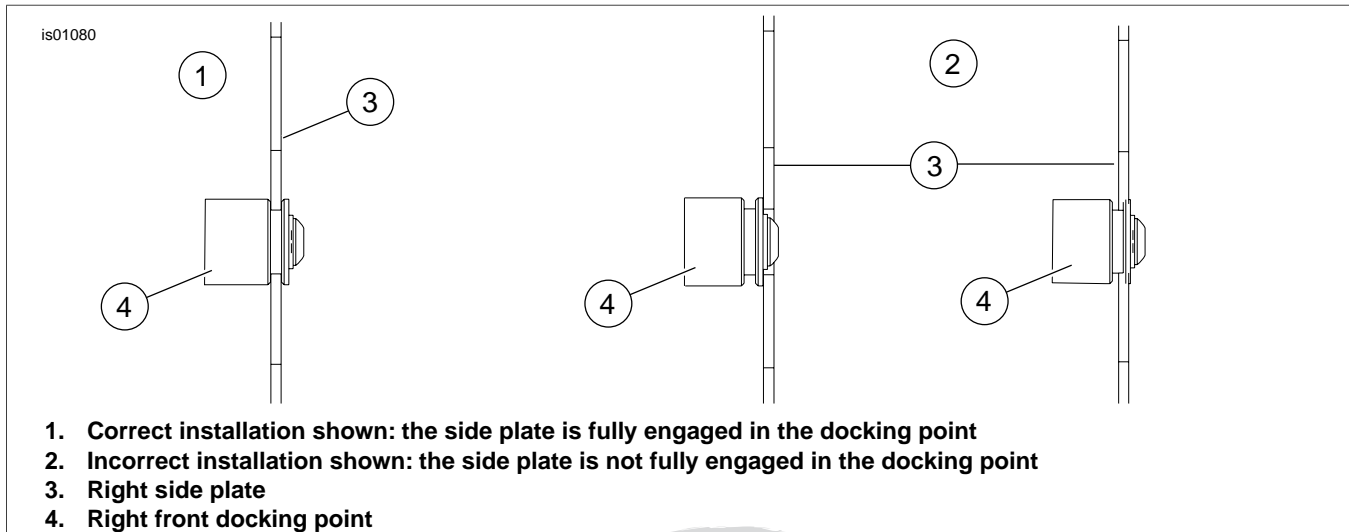
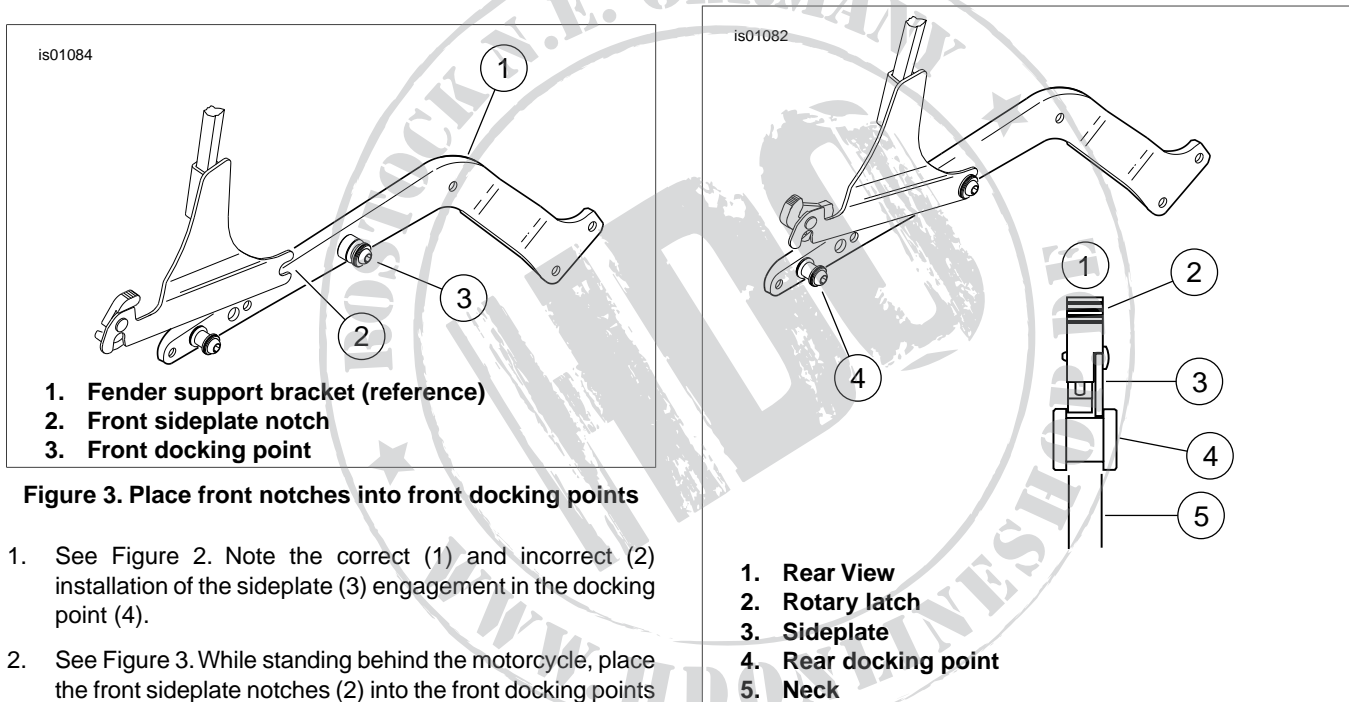

Figure 2. Sideplate Must Fit Into Docking Point Correctly
Figure 3. Place front notches into front docking points
1. See Figure 2. Note the correct (1) and incorrect (2) installation of the sideplate (3) engagement in the docking point (4).
2. See Figure 3. While standing behind the motorcycle, place the front sideplate notches (2) into the front docking points (3) as shown in Figure 3. (Sideplate sissybar assembly in this illustration is not shown in its entirety.) See Figure 2 for views of correct and incorrect sideplate positions.
Check alignment as described in Step 2 and Figure 2. Failure to properly align the docking points and sideplates may result in damage to the rear docking points.
4. Push downward and close the rotary latches by pressing the latch lever as far forward as it will go as shown in Figure 5. You will hear a click when the latch is in place. **If the latch does not easily close, do not force.** Recheck alignment as shown in Figure 4 and Figure 2.